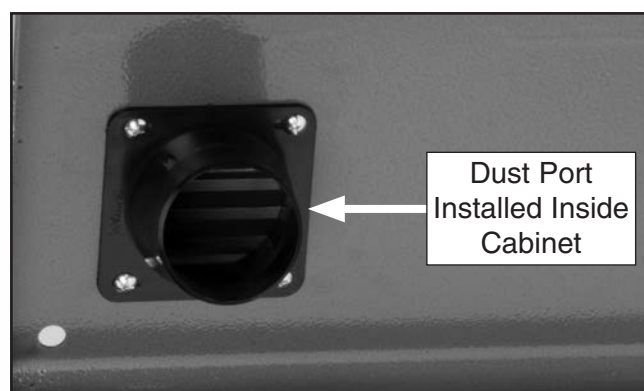

Figure 16. Dust port installation.
25. Install the dust port, as shown in **Figure 16**, with the four 10-24 x 1/4" Phillips head screws.